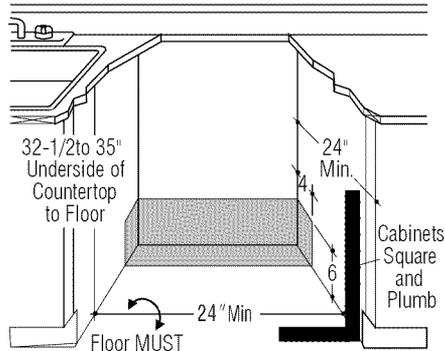

Figure 1
- Drill a 1-1/2" dia. Hole in the cabinet wall within the shaded areas shown in Figure 1 for the drain hose connection. The hole should be smooth with no sharp edges.